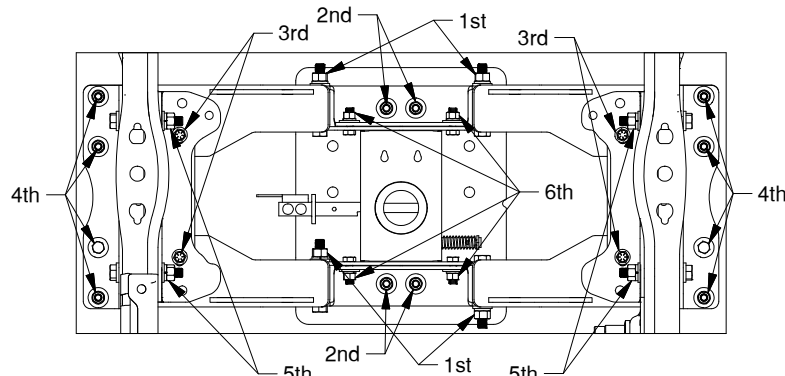

Figure E2: View looking up at hitch installation showing bolt torque sequence.
8. **Torque all hitch hardware.** Once hitch is in the correct position and all hardware is tight, torque the hitch bolts in the order outlined below, starting with the 5/8" cap screws in the center section, see Figure E2. Torque all 5/8" hardware to 150 ft. lbs. and all 1/2" hardware to 110 ft. lbs.